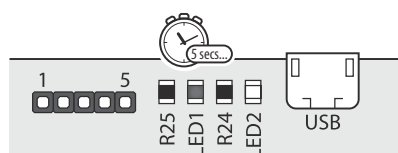

Fig. 30
2. The red LED (LED1) will switch ON for approximately 5 seconds, as shown in **Fig.30**.